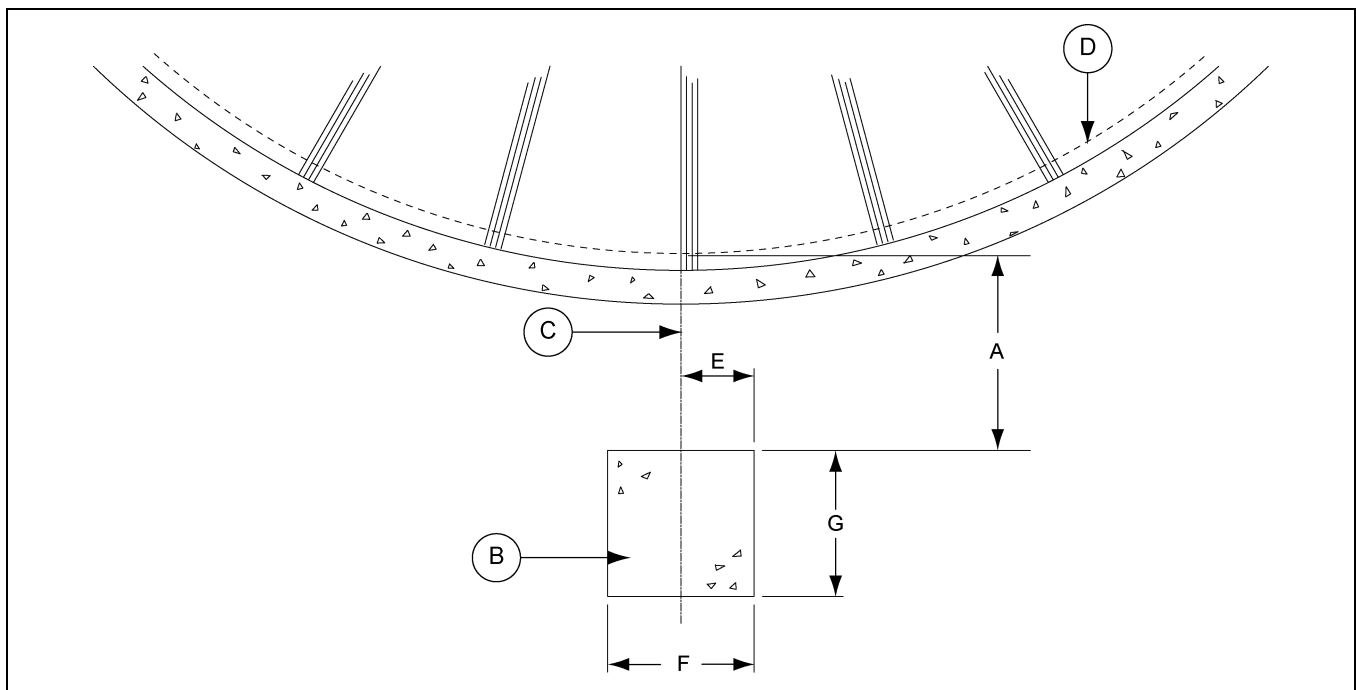

Figure 4G Centrifugal Fan Foundation
4. If a downwind heater foundation is to be installed, the foundation width (F) should be 48" and extended towards the bin by 33".
6. The fan foundation should be perpendicular to the bin wall. (See Figure 4G.)